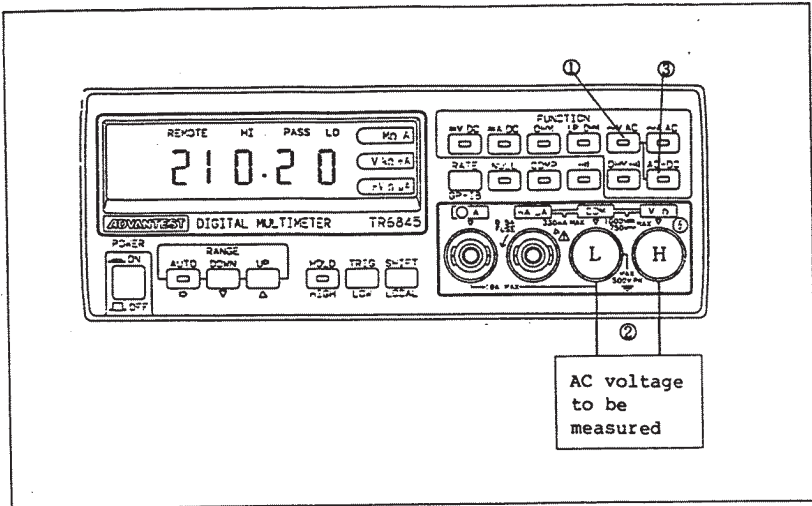

Figure 4-2 Measurement of AC Voltage
- Step ⑤ Press ^{SHIFT} [] to return to the measuring mode. Press ^{COMP} [] to start measurement. The HI, PASS, or LO indicator lights, corresponding to the reading.
- Step ① Press ^{VAC} [] to select the AC voltage measuring function. (LED lights.)
- Step ② Connect the LO end of input cable to COM terminal, and the HI end to V Ω C terminal, as shown in Figure 4-2. Display of the reading begins.